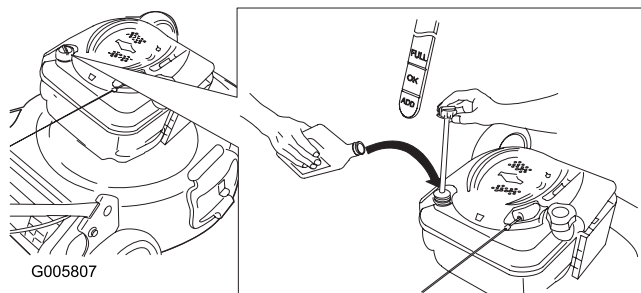

Figure 6
1. Remove the dipstick (Figure 6).
2. **Slowly** pour oil into the oil fill tube until the oil level reaches the **Full** line on the dipstick (Figure 6). **Do not overfill.** (Max. fill: 20 oz. (0.59 l), type: SAE 30W detergent oil with an API service classification of SF, SG, SH, SJ, SL, or higher.)